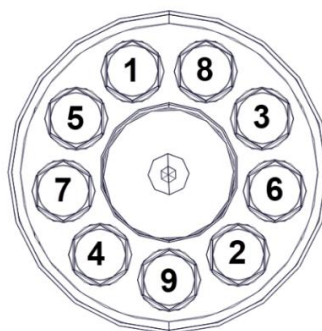

Figure 119.
14. Tighten the bolts in two steps in the following sequence (Figure 119):